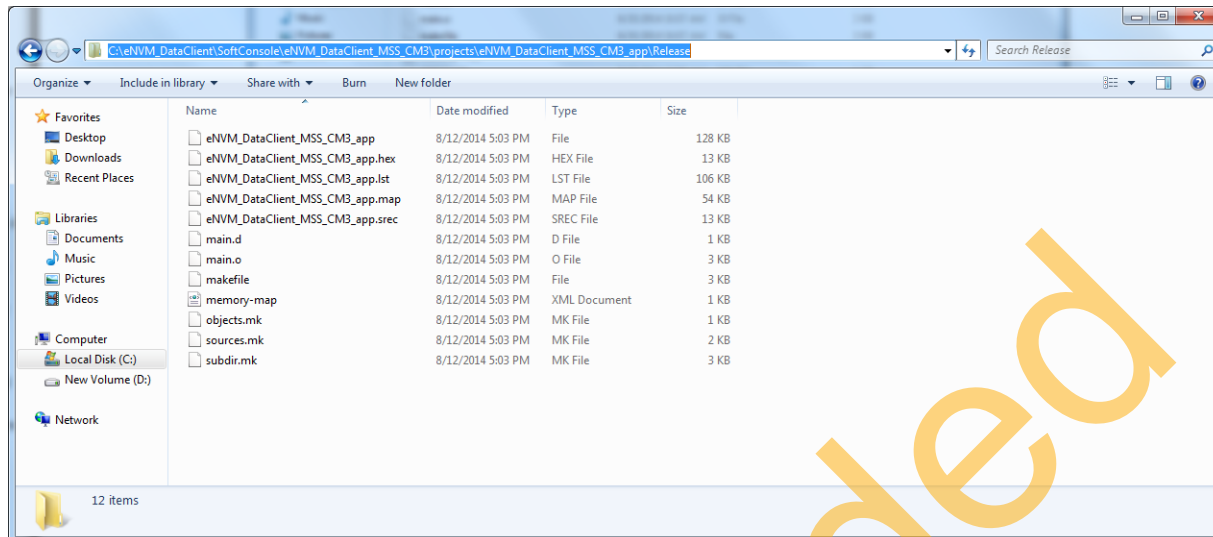
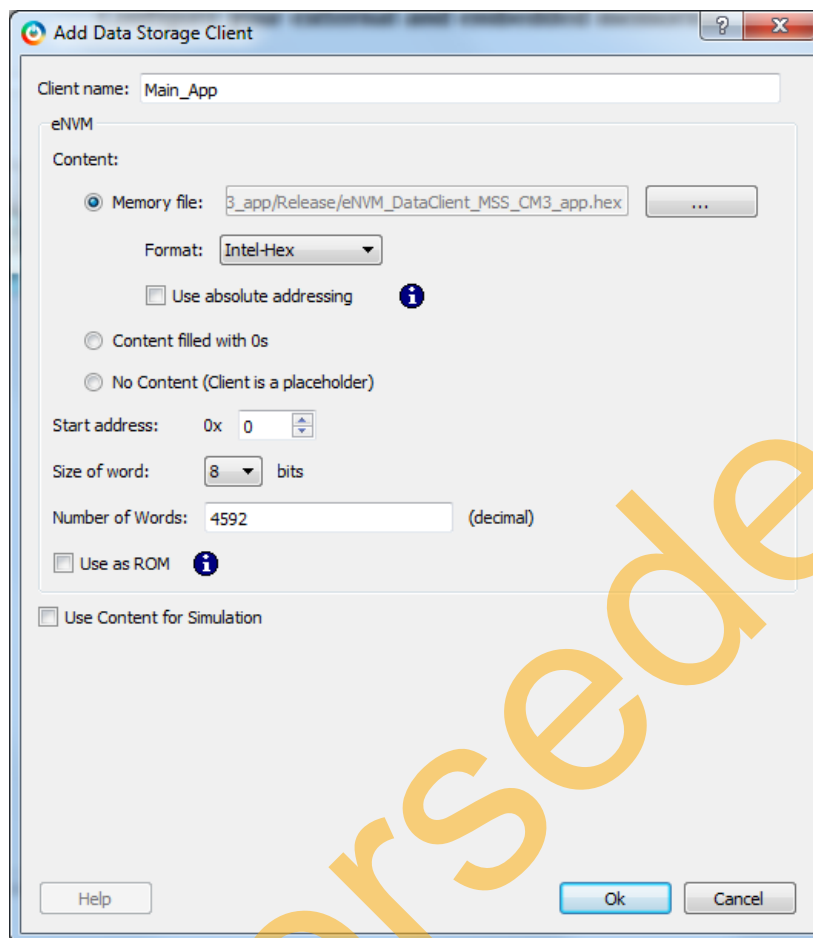

Figure 16 • Executable Image in Release Folder
Figure 17 • Add Data Storage Client Window
5. Browse for the .hex file generated in the SoftConsole project after building an executable image in the Release Mode. The generated executable image is in the **Release** folder under SoftConsole project workspace (see Figure 16 on page 16 and Figure 17 on page 17).